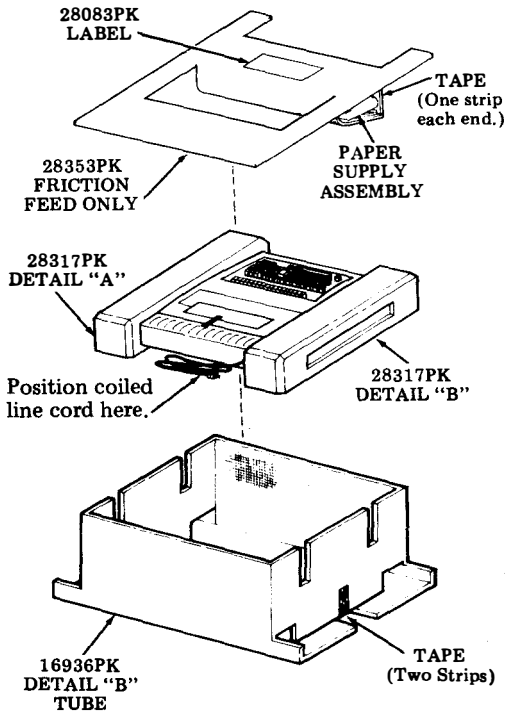

Fig. 12
4.12 Form a 16936PK Detail "B" into a tube. Tightly tape flaps on bottom of Detail with two strips of tape (Fig. 12).